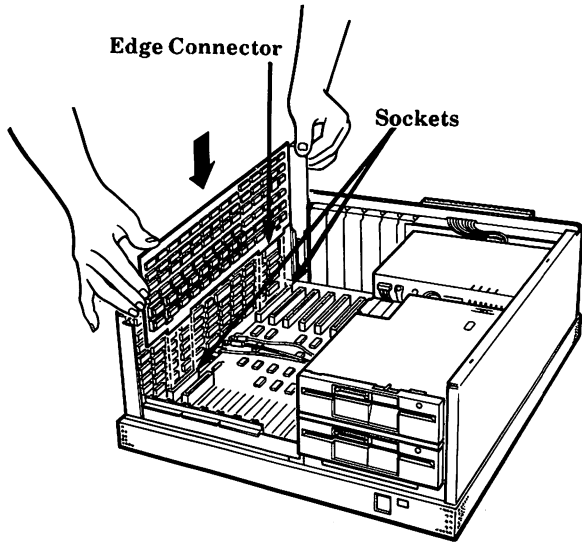

Figure 2-4. Installing the memory board
5. Locate the two wires connected to the back left corner of the processor. Gently move the wires back out of the way so you can insert the memory board as shown in Fig. 2-4 on the next page.
6. Align the edge connectors over the sockets. See Fig. 2-4.